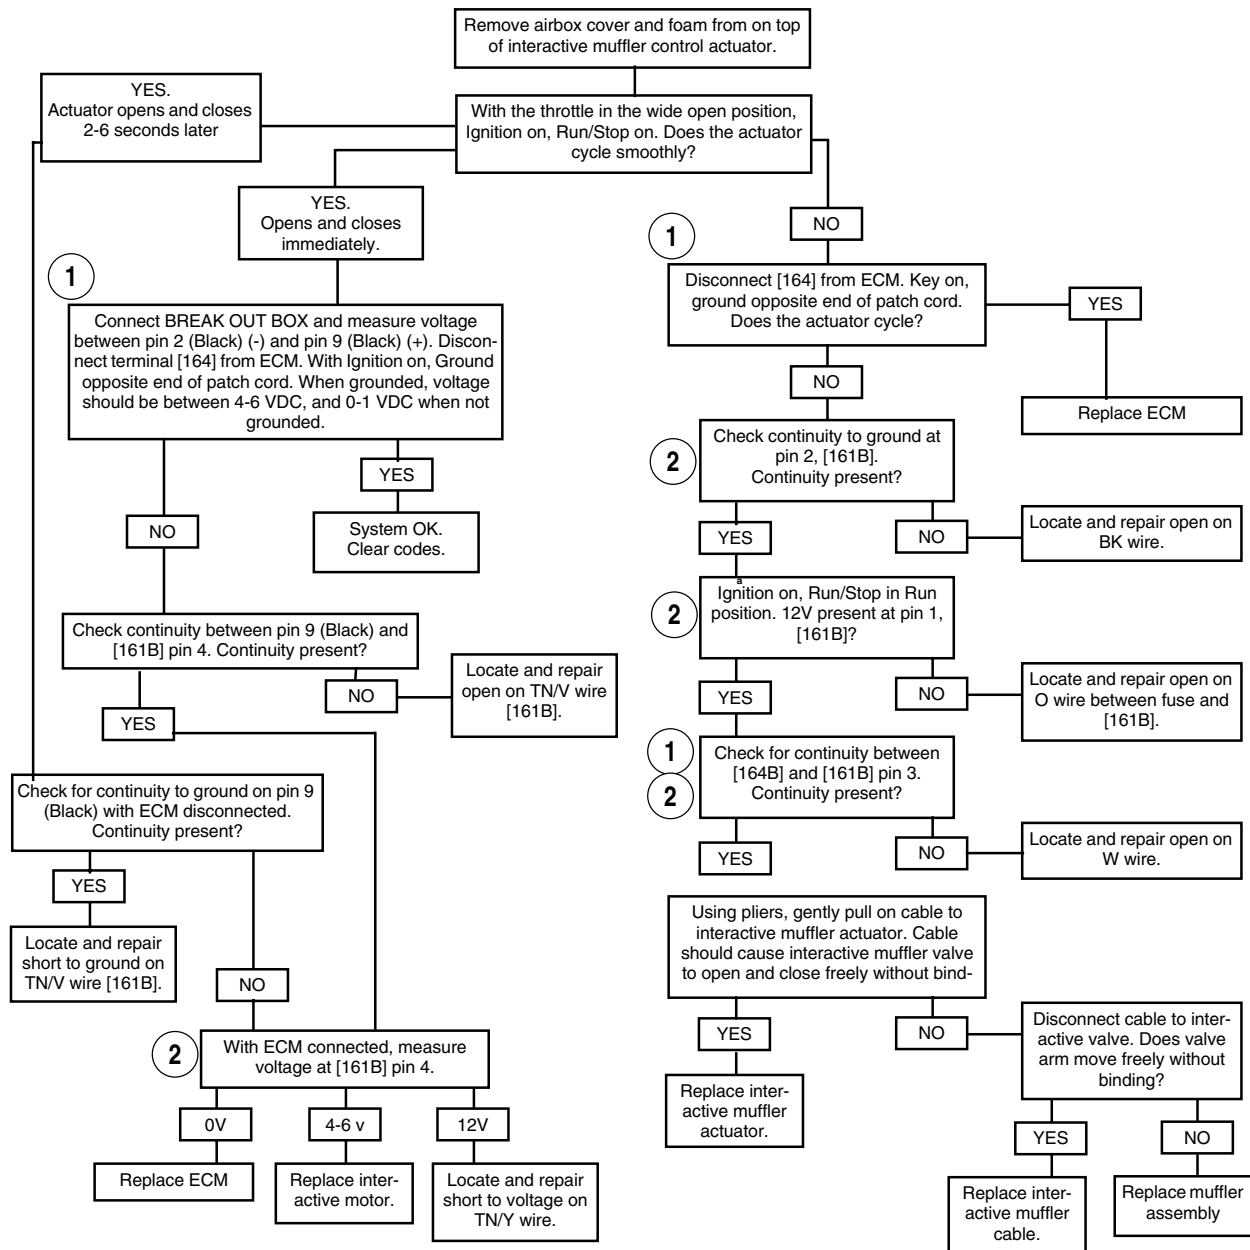

**Figure 4-43. Interactive Muffler Circuit**
**Table 4-25. Wire Harness Connectors in Figure 4-43.**